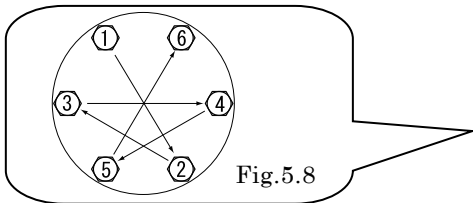

Fig.5.8
- Tighten the bolts gradually in a diagonal sequence with even torque. [Fig.5.8].